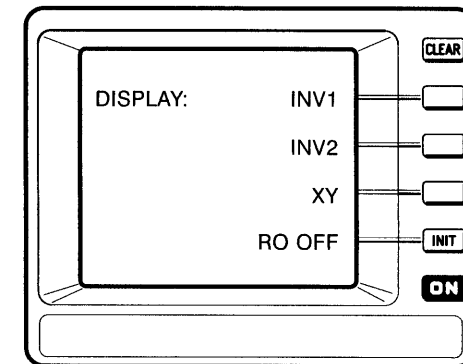

Figure 3-10: The Display Menu
- Step 1:** Press the **DISPL** button on the top panel to access the display menu. Figure 3-10 shows the display menu.
- Step 1:** Press the **DISPL** button on the top panel to invoke the display menu. See Figure 3-10.